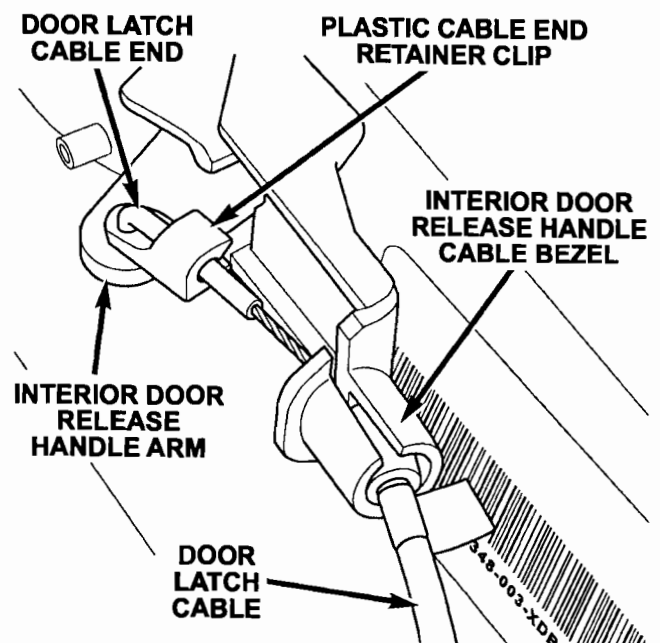

Figure 2
8. Disconnect the door latch cable end from the interior door release handle arm (Figure 2).
9. Remove the door latch cable from the release handle cable bezel (Figure 2).
37. Install the door latch cable to the release handle cable bezel (Figure 2).
38. Connect the door latch cable end to the interior door release handle arm (Figure 2).